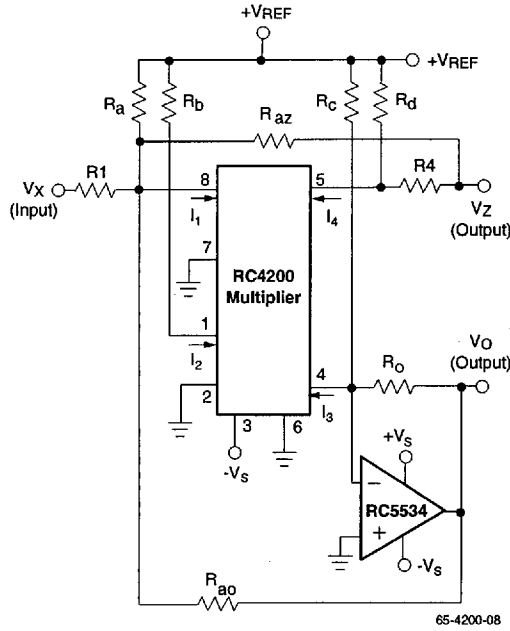

Figure 6.
1. Refer to Figure 6 for example.
3. These specifications apply with output (b) connected to an op amp summing junction. If desired, the output (b) at pin (4) can be used to drive a resistive load directly. The resistive load should be less than  $70\Omega$  and must be pulled up to a positive supply such that the voltage on pin (4) stays within a range of 0 to +5V.